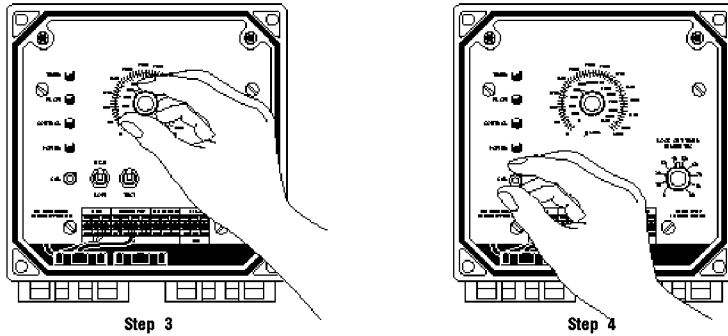

Fig. 7, System Calibration
3) Position the Trip Point Knob to the number on the scale that matches the value you measured with the hand held meter in Step 2 (See Fig. 7, Step 3). Use either high or low scale determined by position of High/Low switch.
4) Adjust Cal Adjust knob (See Fig. 7, Step 4) until Control light comes on. Back off Cal Adjust knob until light just goes out. Your unit is now calibrated.